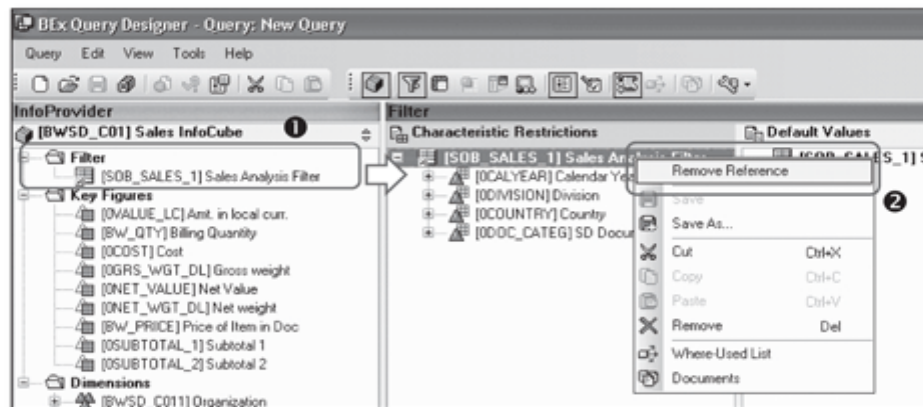

Figure 9.44 Reusing Saved Filters
Now, if you create a new query on the same InfoProvider, the saved filters are visible under the Filter folder in the InfoProvider screen area of the designer (❶ of Figure 9.44).
To reuse the already existing filters, you have to select, drag, and drop the filter into the Characteristic Restrictions area. If you make any changes to this filter in this query, those changes will be reflected in all of the queries that are using the same filter. So if you want to make any changes that are specific only for that query, you must remove the reference for the filter used in the query. For this, open context menu for the filter and select Remove Reference to detach the filter (❷ of figure 9.44).